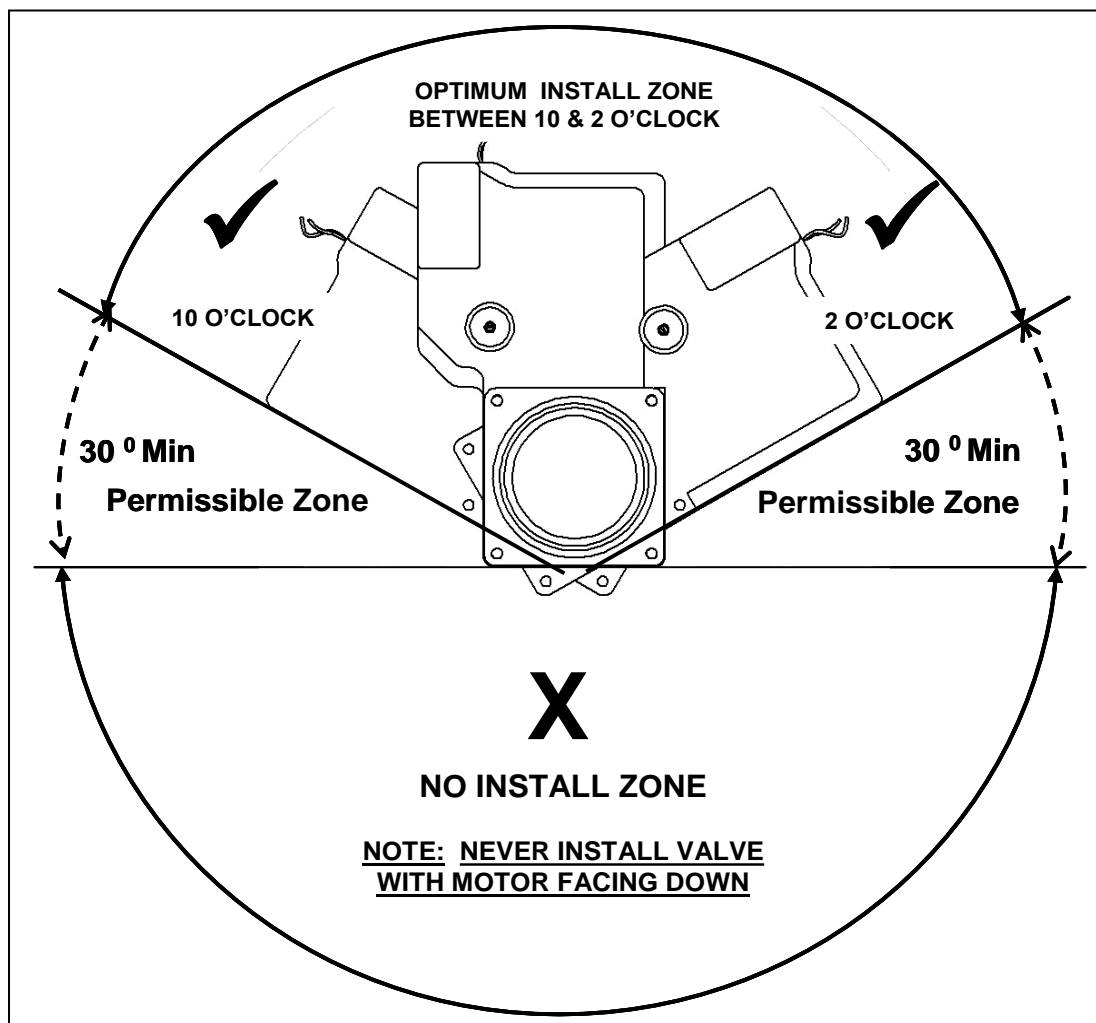

Fig.4
- Never install the Drain Master with the motor/gear/gate housing down. Must be installed vertically (see Fig. 4 How to install)
**Step 7:** Pay careful attention to the Optimum Install Zone shown in **Fig. 4** – the most ideal position is vertical with the motor up at the highest point.
Ref to **Fig. 4**: The optimum install zone is between 10 O'clock and 2 O'clock and within this zone the most ideal orientation is vertical (90 Deg). If the optimum zone Installation is not feasible, installation within the 30 Deg Permissible zone is acceptable. Refer Step 7 above.